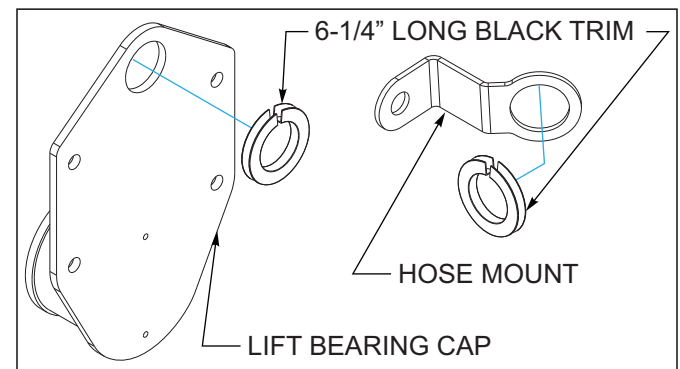

Figure 3-8: Trim Installation
8. Install a 6-1/4" long piece of black trim in the top hole of the lift bearing caps. Outer wing bearing caps do not require trim. Route rear fold and lift hydraulic hoses through bearing caps between frame sections **See Figure 3-8**. Install a 6-1/4" long piece of black trim in the hole of the hose mounts **See Figure 3-8**.